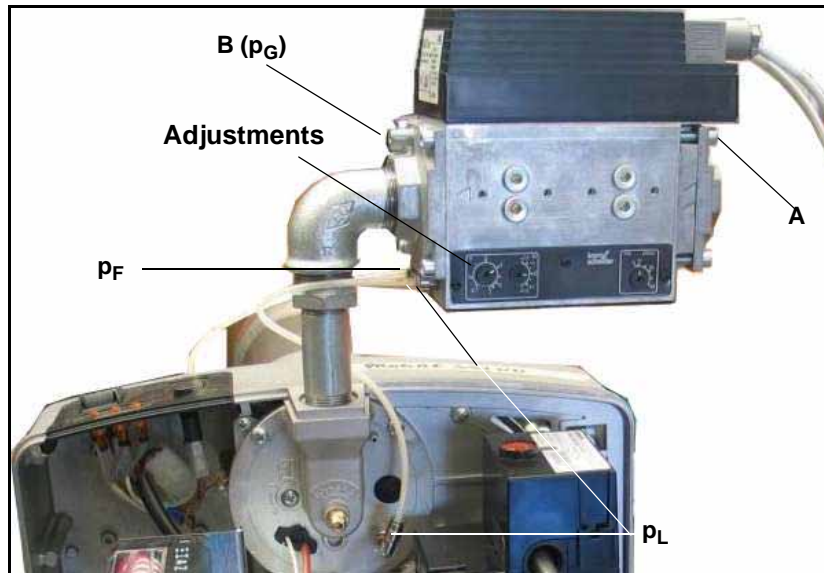

Fig. 19
Transmission ratio **V** (see pictures Fig. 19 - Fig. 20)
- 2 Test gas pressure p_G at **B** (see picture Fig. 19).
- 3 Test air pressure p_L (see picture Fig. 19) at the burner and adjust the gas pressure at **N** according to the specifications of the burner manufacturer.
Do not block connection p_F if not used (see picture Fig. 19).
V = Do not set transmission ratio to high! The gas pressure at **B** is smaller than the gas pressure at **A** (see picture Fig. 19) minus the pressure drop of the combination control.
- 2 Measure the gas pressure at **A** and **B** (see picture Fig. 19).